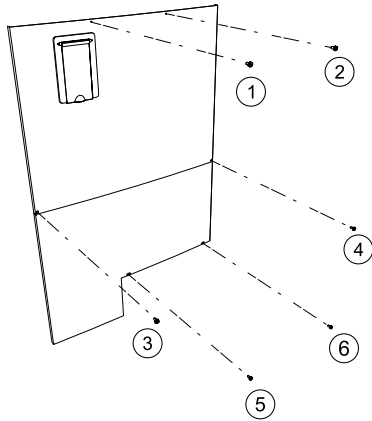

Figure 39. Sheet Metal Screws to Remove Control Panel
If service access to the heater is required, it is accomplished by removing the control cover panel and service access panel (Figure 39) to provide a wide access to get to compressor, heat exchanger, thermal expansion valve (TXV), flow switch (if equipped), and sensors (water, ambient and coil). To gain access, follow the steps below:
2. Remove the heater's front control cover panel by unscrewing the six (6) screws using a 1/4" hex head screwdriver. See Figure 39.